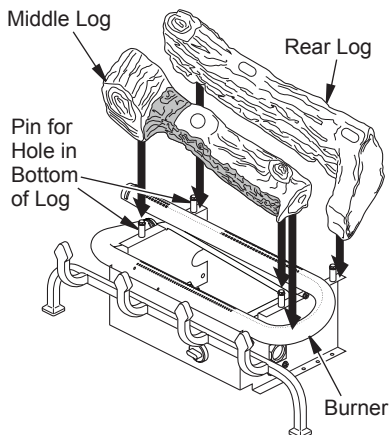

Figure 17 - Installing Rear and Middle Logs
1. Place rear log (#1) onto base. Holes in bottom of log must seat over pins on base as shown in Figure 17.
2. Place middle log (#2) onto base. Holes in bottom of log must seat over pins on base as shown in Figure 17.